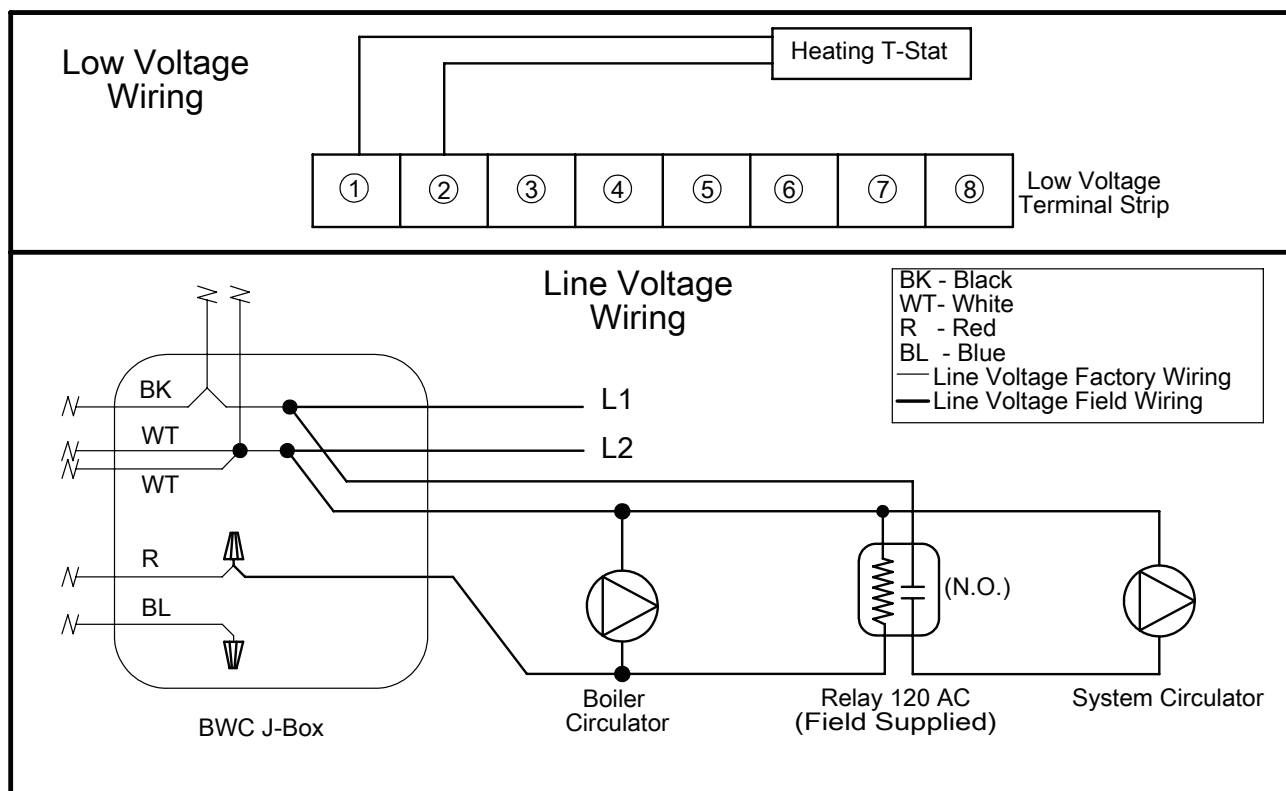

FIGURE 7.0: Wiring BB100H to Boiler equipped with Type III MCBA
1) Connecting BB100H to Type III MCBA Equipped boilers (Figure 7.0):